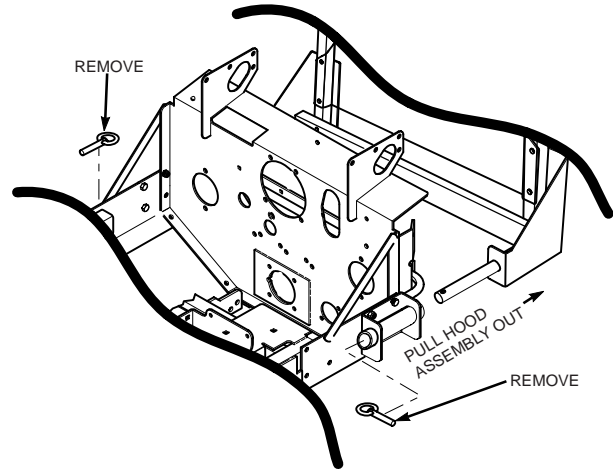

FIGURE 5-2
5. Remove the two (2) pins holding the hopper assembly to the mounting brackets on the rear of the machine. See Figure 5-2.